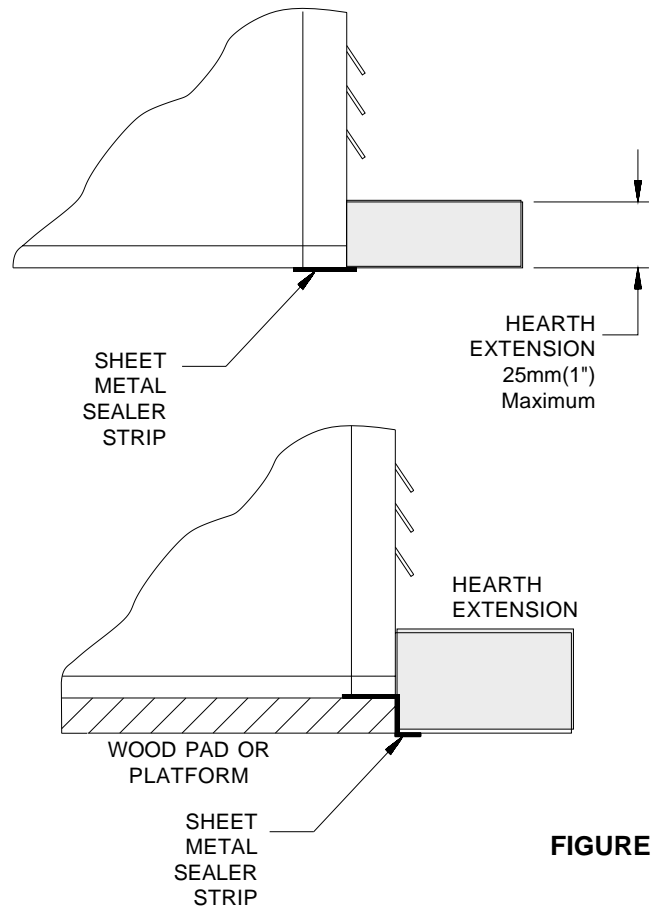

FIGURE 3
5. In order to minimize the possibility of a fire caused by hot ashes falling between the hearth extension and the fireplace, a sheet metal sealer strips must be installed and used as per figure 3.